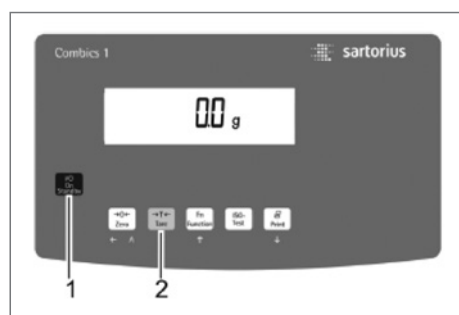

Figure 65 Switching on the control unit
- 3.2. Use the [ON | OFF] button to switch on the weighing control unit (see Fig. 65 | 1).
- 3.4. Select the [Tare] button immediately before starting the filling process (see Fig. 65 | 2).
- 3.5. The weighing cells will now measure the weight in bag and show it on the display (see Fig. 65).